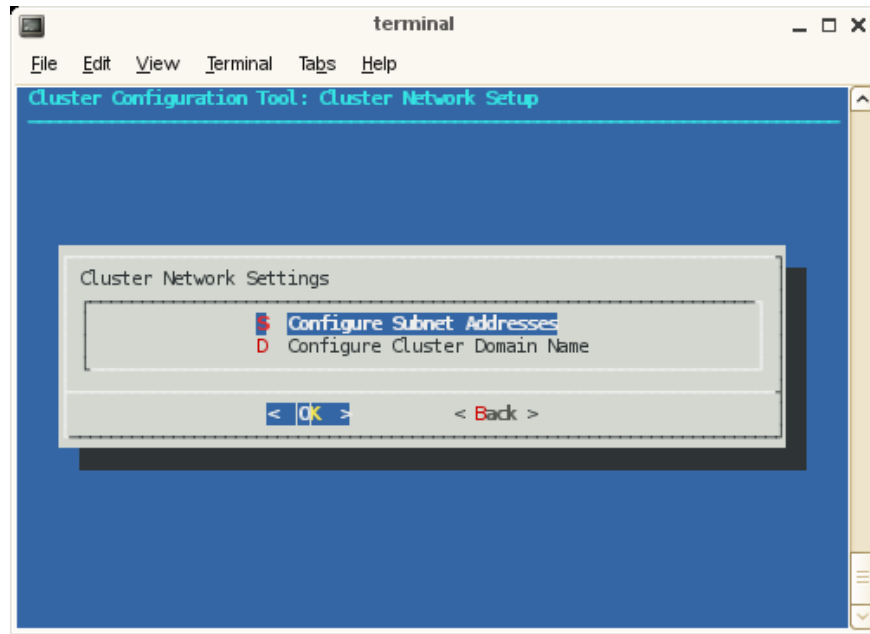

Figure 2-24 Cluster Network Setup Screen
10. After choosing the **Network Settings** option, the **Cluster Network Setup** screen appears, as shown in Figure 2-24 on page 67.